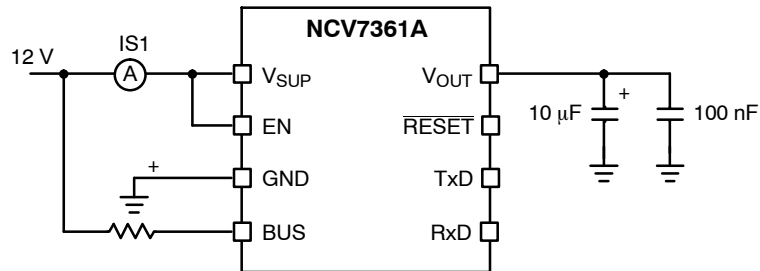

Figure 6. Test Circuit for Supply Current I_{SNL}
4. See Figure 6 for test setup.